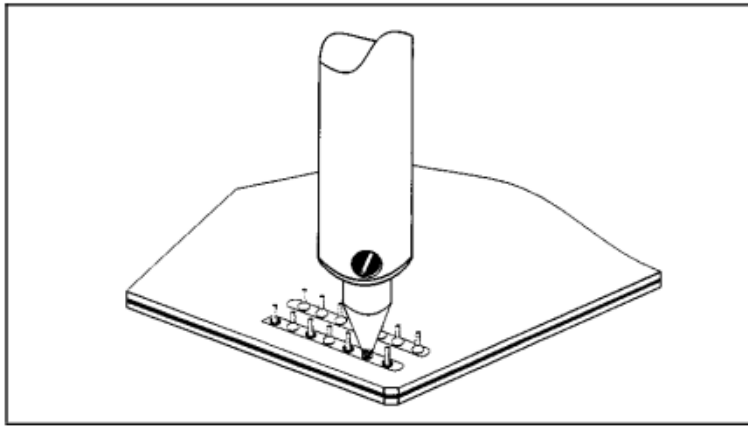

Figure3 Melt Solder
- (g) Confirm complete solder melt of contacted lead. (See Figure 3.)